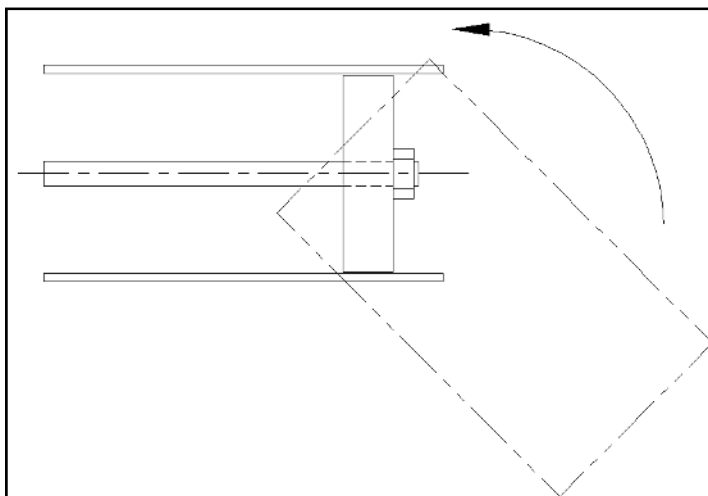

Figure 6—Assembling Cylinder
6. Carefully slide the Cylinder Tube (C13) over the Piston (C10). The Piston Seal (C11) must be well lubricated. Start the Cylinder Tube (C13) at a 45° angle and rotate it into position onto the Piston (C10). See Figure 6.